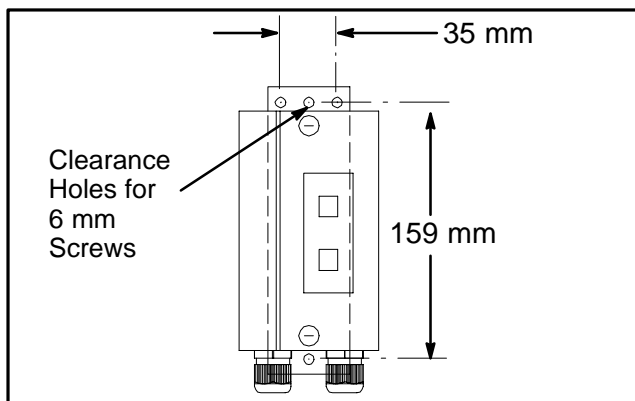

Figure 7
**NOTE:** The mounting hole center-line to center-line dimensions (Figure 7) are provided for control panel mounting.